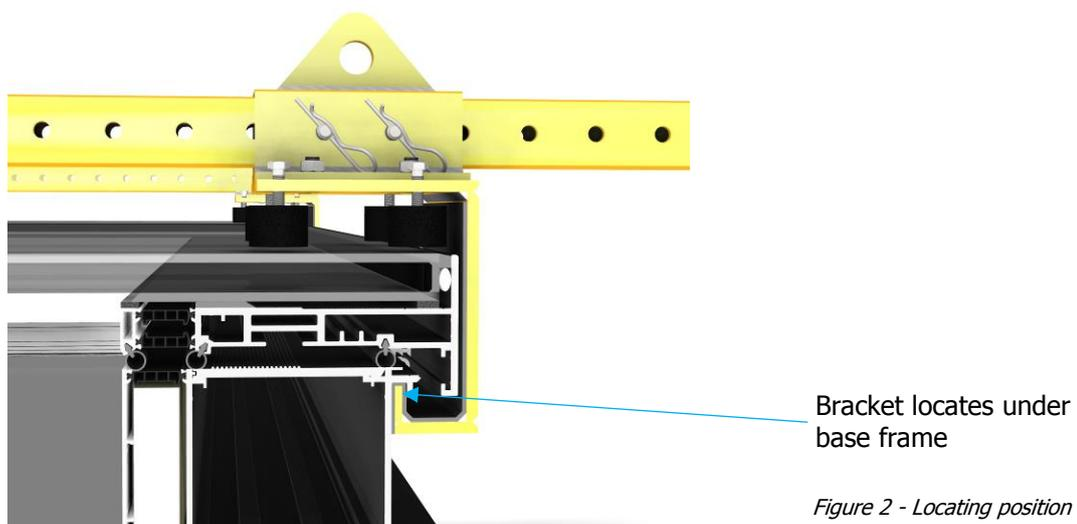

Figure 2 - Locating position
2. Carefully place the lifting bracket frame on top of the X-Vent. Then slide the brackets in until they stop against the base extrusion (*Figure 2*).
5. Tighten the rubber feet on to the glass until the bracket is located in the base extrusion profile (*Figure 2*). Do not over tighten, the bracket only needs to locate so it does not fall off but does not need to be clamped on.